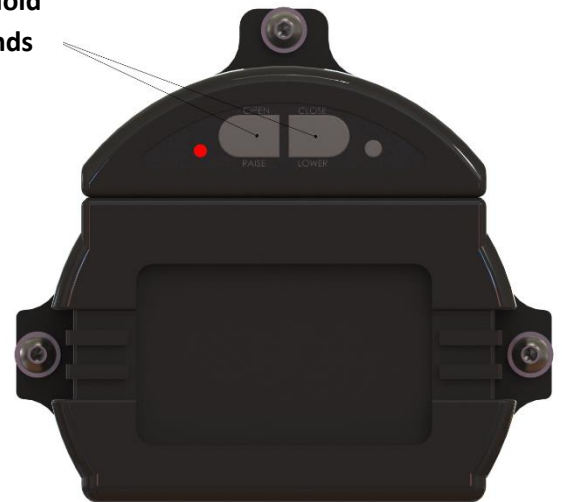

Figure 1: Standalone Module
1. Once you have all remotes you wish to program ready. Turn the RF control module on, then press and hold the two large buttons (Figure 1) for approximately 3 seconds until a red light flashes on.
2. Push and hold the small round button and the large OPEN/RAISE button (Figure 1) simultaneously, holding for 6 seconds. The light will flash rapidly.